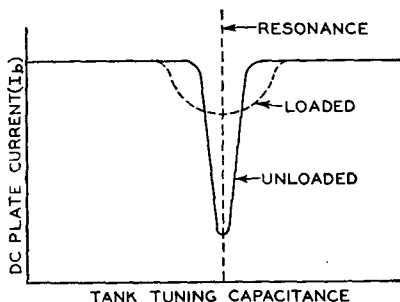

Fig. 47
(1) Make sure that all power to the equipment is *off*.
(2) Disconnect all positive plate, screen-grid, and suppressor-grid supply leads from the amplifier and from all following stages.
(3) If variable coupling is used between driver and amplifier, adjust the coupling to approximately one-half maximum.
(4) Apply only normal filament or heater voltage to the amplifier, and all normal operating voltages to the driver.
(5) Quickly tune the driver plate circuit to resonance, which is indicated by a dip in driver plate current, as shown in Fig. 47, and by maximum grid current in the amplifier stage. If the ampli-
(10) Connect the external load to the amplifier plate tank. (If this step has already been taken to eliminate flashover, as described above, tighten the load coupling.) When the load is applied or the load coupling increased, the plate current of the amplifier should rise. Retune the amplifier plate tank to resonance after each change in coupling. The amplifier plate current should still dip at resonance, but its minimum value should be considerably higher than under no-load conditions, as shown by the dashed curve in Fig. 47.
(11) Apply full plate, screen-grid, and suppressor-grid voltages to the amplifier. Increase the coupling between amplifier and load, retuning the amplifier plate tank to resonance as often as necessary, until the plate current at the resonance dip has the desired value. In no case should the plate input (the product of the dc plate voltage and dc plate current) exceed the maximum value given in the tube ratings for the type of service involved.